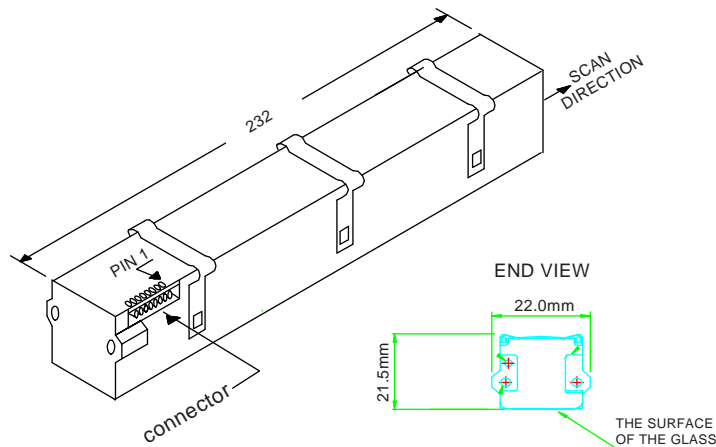

Figure 5. PI227/228/229 Module Mechanical Overview
- (6) This level is measured from the reset level that is located between the pixels, during the pixel reset duration. The reset level is at or near ground, 0V. Note the gain is adjustable on each output. However, it is recommended that the gain should not be increased above the level where the reset ground level starts to increase above zero.
- (7) A graph of the typical MTF vs DOF is shown under discussion of MTF in Figure 5.
The isometric sketch, Figure 5, of the housing shows the connector location, the approximate overall dimensions and its general geometric layout of the module. It is not intended for use as a design reference. The detailed drawing for the any of the PI227/228/229 Module Mechanical Overview is available upon request.